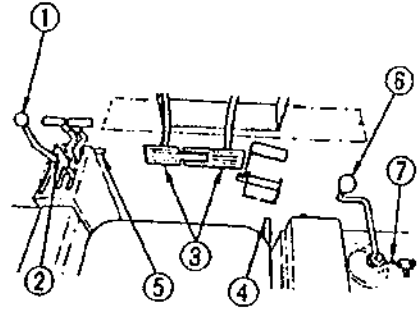

Fig. 4-1
4.1 Check before starting(Fig. 4-1)